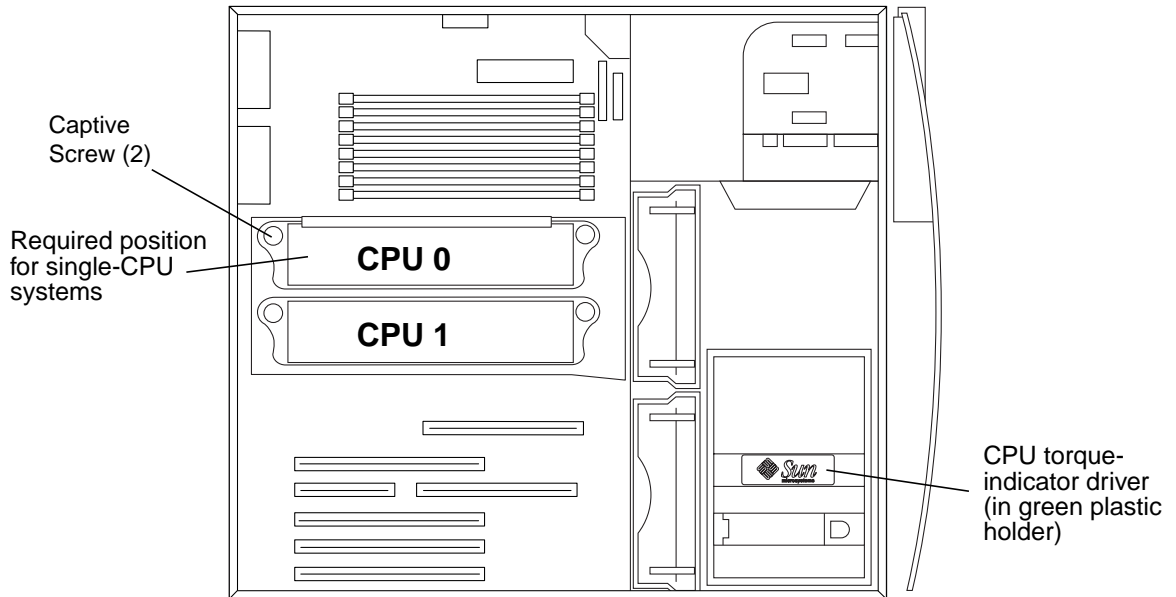

FIGURE 5 CPU Position 0 and CPU Position 1
The position of the two UltraSPARC-III CPU module slots is shown in the following illustration of the system with the access panel removed (FIGURE 5). The position labelled “CPU 0” is the required position for all systems that contain only one CPU.
**a. Remove the CPU torque tool from its green plastic holder. The torque tool is stored in the middle of the hard drive bracket (see FIGURE 5).**
**Caution** – To ensure proper system cooling, any unused CPU slot must contain a CPU shroud filler panel in place of a CPU module (see FIGURE 5).